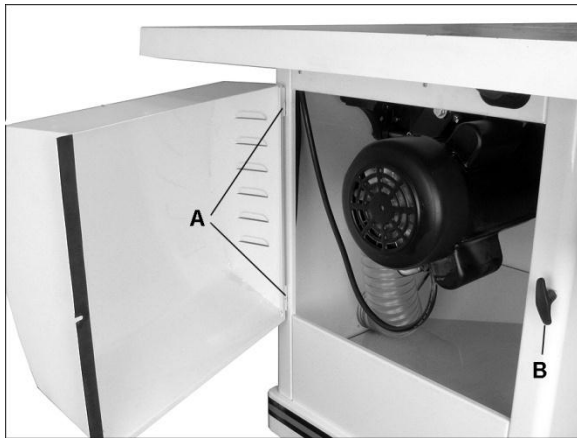

Figure 6
1. Install motor cover by aligning pins on cover with barrels on cabinet (A, Figure 6).
2. Fasten cover by pulling out latch (B, Figure 6), closing door, and releasing latch.